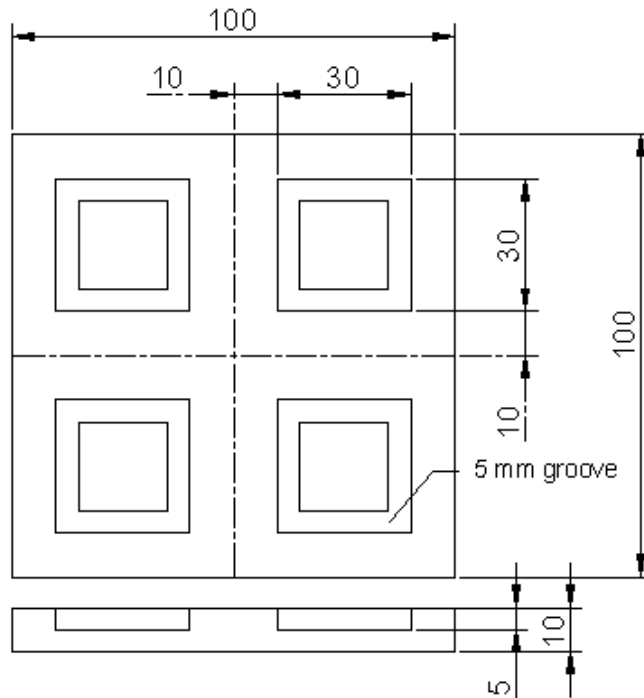

Figure 4
- (c) Write the programme for FIG 4 with mirroring function. **07**